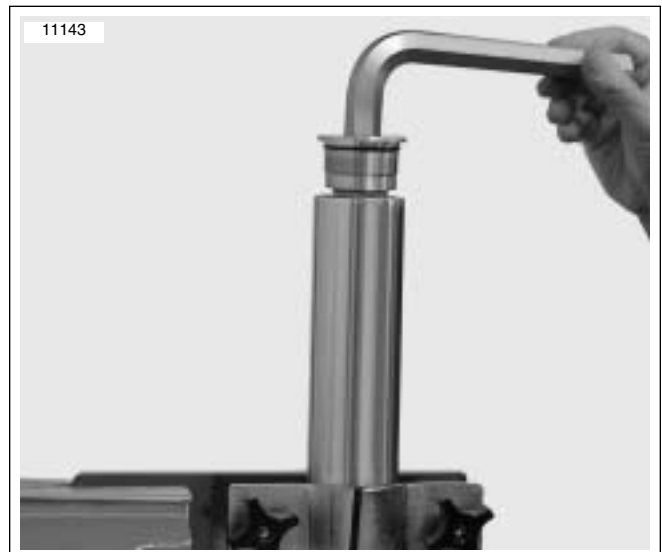

Figure 2-123. Clamp Fork and Loosen Fork Cap
- See Figure 2-123. Using FORK TUBE HOLDER (HD-41177), mount fork assembly in vise.